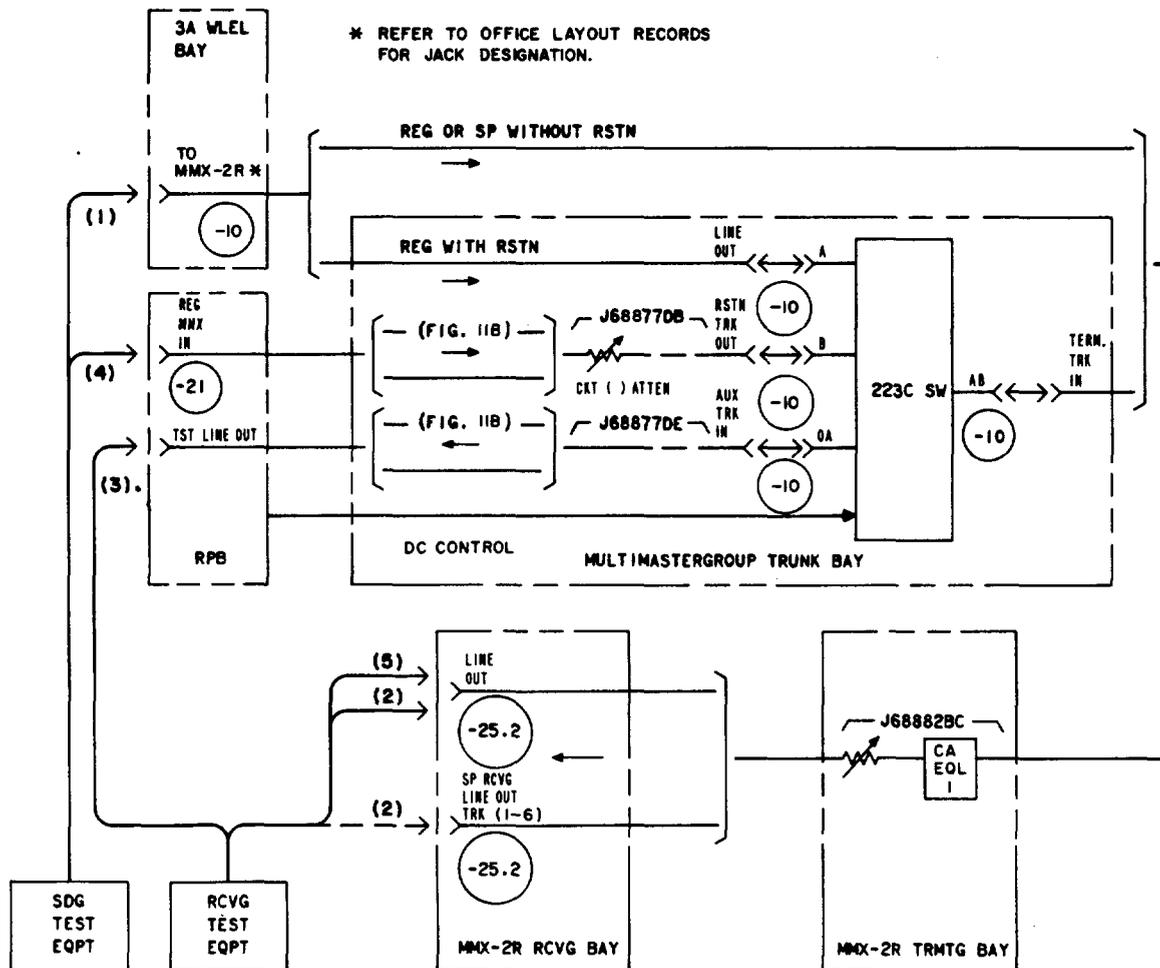

Fig. 2—Receiving Regular or Spare Radio Trunk Without Mastergroup Branching
4	Connect the STE to the appropriate TO MMX-2R jack in the WLEL bay [patch (1), Fig. 2].
5 Connect the RTE to the LINE OUT or SP RCVG LINE OUT TRK jack in the MMX-2R receiving bay [patch (2), Fig. 2]
9	Remove patch (2), Fig. 2.
11	<p>Make patch (3), Fig. 2.</p> <p>Note: The operated 223C switch completes a signal path between the A and OA jacks on the switch.</p>
13	<p>Proceed to Step 14 if the requirement is met. Otherwise, continue signal tracing to locate and clear the trouble. Then repeat Steps 10 through 12.</p> <p>Note 1: Two zero-loss trunks (Fig. 9B) may be used in conjunction with this trunk. In this case, the zero-loss trunks should be tested as prescribed in Chart 9B. The zero-loss trunks are indicated in Fig. 2 by the designation Fig. 9B.</p> <p>Note 2: Chart 11 is a procedure for checking the cable equalizers in the J68877DB, J68877DE, and J68882BC panels.</p>
15	Remove patches (1) and (3), Fig. 2.
17	Connect the STE to the REG MMX IN jack in the restoration patch bay [patch (4), (Fig. 2)]. Note: The 223C switch operates and the RSTN SW OPR lamp lights.
18	Connect the RTE to the LINE OUT jack in the MMX-2R receiving bay [patch (5), Fig. 2]. Note: The operated 223C switch completes a signal path between the B and AB jacks on the switch.